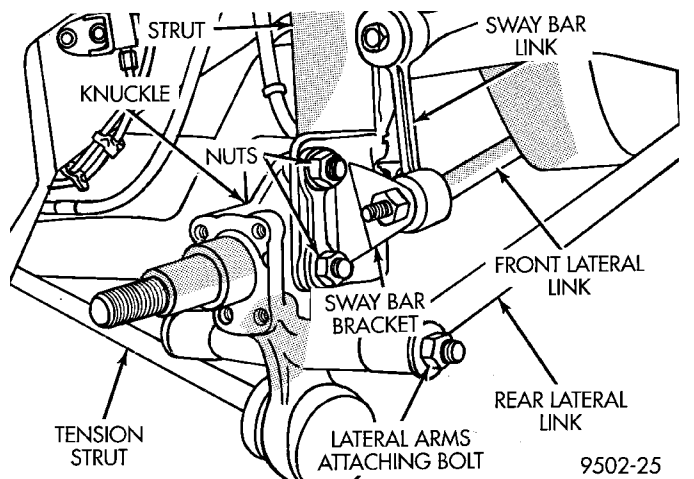

Fig. 17 Knuckle To Strut And Lateral Arm Mounting Bolts
(9) Loosen but do not remove at this time, the 2 strut assembly to knuckle attaching bolts (Fig. 17). Then remove the lateral links to knuckle attaching bolt (Fig. 17).
(11) Remove both rear knuckle to strut assembly clevis bracket attaching bolts (Fig. 17). If vehicle is equipped with a rear sway bar also remove the sway bar link to strut mounting bracket (Fig. 17).
(12) Remove knuckle assembly from strut, by sliding knuckle straight out of clevis bracket on strut assembly. Then remove knuckle from tension strut.
(2) Install the 2 strut assembly clevis bracket to knuckle attaching bolts and nuts (Fig. 17). Torque the attaching bolts to 95 N·m (70 ft. lbs.).
(3) Install the lateral arms to knuckle attaching bolt, washers and nut as shown in (Fig. 17). **Do not tighten the lateral link bolt at this time. The vehicle must be at curb height when tightening the lateral link bolts.**